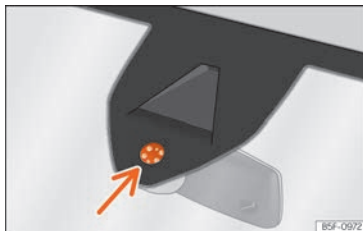

Fig. 103 Rain sensor sensitive surface
Possible causes of faults and mistaken readings on the sensitive surface »» Fig. 103 of the rain sensor include:
- Clean the sensitive surface of the rain sensor regularly and check the blades for damage »» Fig. 103 (arrow).